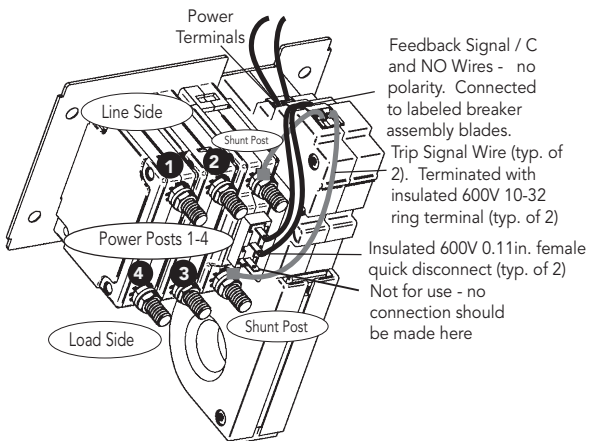

Figure 6. Pre-Wired GFPD-150V / Breaker Assembly
The GFPD-150V and breakers are assembled at the factory. Breaker shunt, (C) and (NO) leads are pre-wired to the GFPD-150V terminals - See Figure 6. The GFPD-150V external voltage source connections are described in the next section - Completing Wiring.
3.2.2 Completing Wiring - See Figures 6 and 7
Step 2. Crimp the supplied ring terminals on the ends of the (+) and (-) solar<->breaker conductors, and connect solar array (+) wire to post (4) (load side), and solar array (-) wire to post (2) (line side) using the supplied hardware (see Figure 6).
Step 3. Crimp the supplied ring terminals on the breaker side ends of the (+) and (-) breaker <->controller conductors. Connect breaker side (+) wire to post (1) (line side), and breaker side (-) wire to post (3) (load side) using the supplied hardware (see Figure 6).